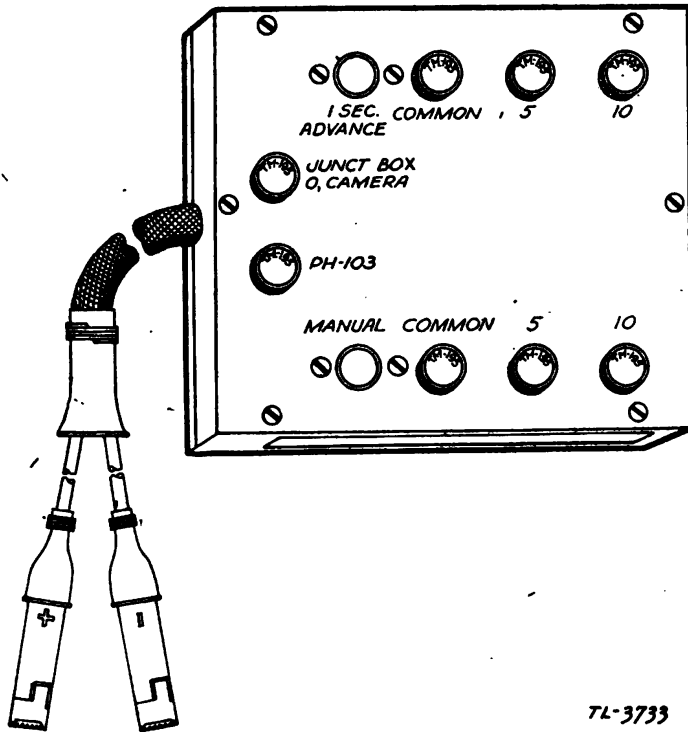

FIGURE 8.—Time interval multiplier PH-264- ().
6. **Time interval multiplier PH-264-().**—This multiplier (fig. 8) receives pulses at a rate of one per second from the time interval device and delivers pulses at either 5-second or 10-second intervals to